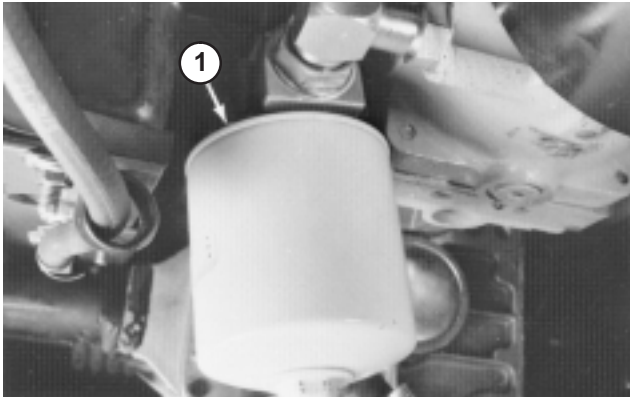

Figure 49
1. Clean area where hydraulic oil filter mounts. Remove filter from base (Fig. 49) and clean filter mounting surface.